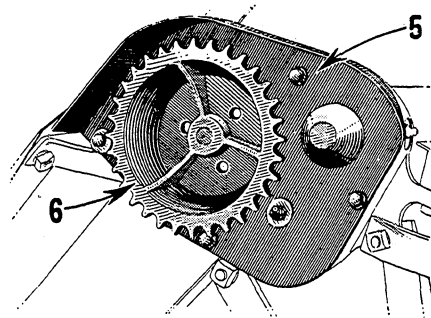

Figure 67
5. (Figure 67) Replace cover for rear elevator spur gears.
6. (Figure 67) Replace lower elevator sprocket and gear rear.